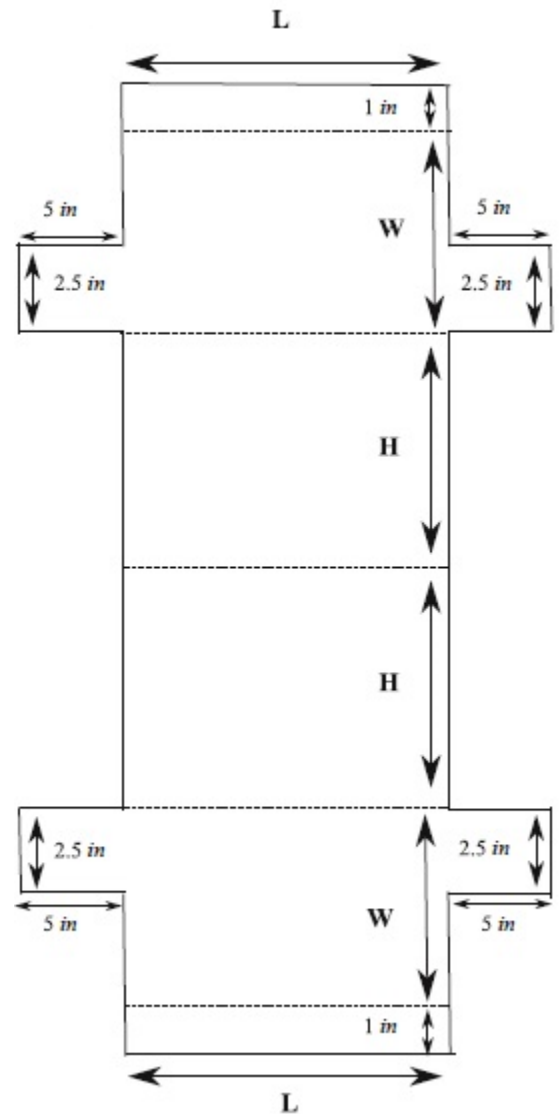

Fig. 4
- 12) To cut out the soft-structure Tyvek cover, draw the diagram in Fig. 4. Use the tray dimensions for length, width, and height. Using a utility knife and straight edge, cut only solid lines.